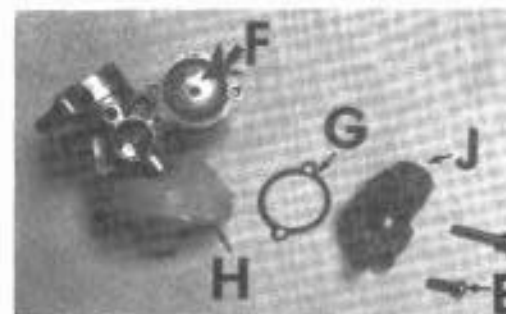
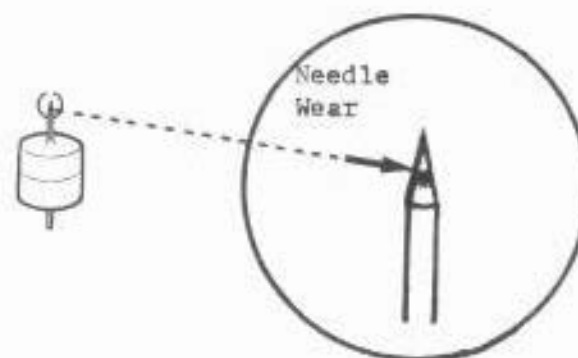

Fig. 38-1
Fig. 38-2
- 1) Make sure there is fuel in the fuel tank and with fuel tap up (OFF), remove the fuel line from the fuel tap, push the fuel tap down (ON) and make sure the fuel is flowing. If the fuel is flowing pull the fuel tap up (OFF) and refit the fuel line. Repeat the processes at the carburettor to ensure the fuel is flowing.
- 2) There are two filters which should be checked. One is situated on the fuel tap retaining bolt "A" Fig. 37-1. The other is on the carburettor at the float bowl cover "B" Fig. 38-2. If there is a lack of fuel to the carburettor the filters could be blocked or the fuel line clogged.
- 10) To check any of the situations A,B or C remove the two screws "E" Fig. 38-1 and remove the float bowl cover "J" and lift out the float "F". Check the needle seat for any foreign matter or gum and clean it thoroughly. Check the needle and make sure it is not bent or worn, see diagram Fig. 38-2. If bent or worn replace it with a new one. Shake the float to determine if there is any fuel inside and if so replace it.
- 11) Check the gasket "G" Fig. 38-1 on the float bowl cover and replace if necessary.
- 15) There are fine wire mesh screens in the air filter "H" Fig. 38-1 which should be cleaned; this is easily done by removing the air filter cover and removing the two screws on the end cap of the air filter, giving access to the screens. Wash these clean with a suitable solvent.